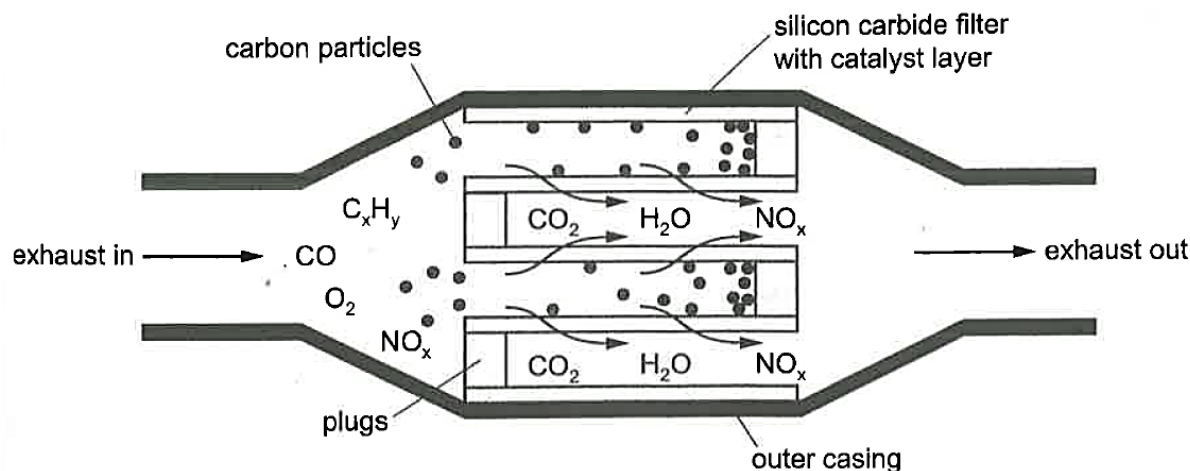

Fig. 11.1
- 11 Petrol and diesel vehicles are fitted with catalytic converter to reduce the amount of polluting substances emitted from the exhaust. For diesel engines, the catalytic converter may also include a particle filter to remove solid particles of carbon. Fig. 11.1 shows one design of diesel particle filter.
- (c) (i) Using the information provided Fig. 11.1, write a balanced chemical equation of a redox reaction that occurs in the catalytic converter.